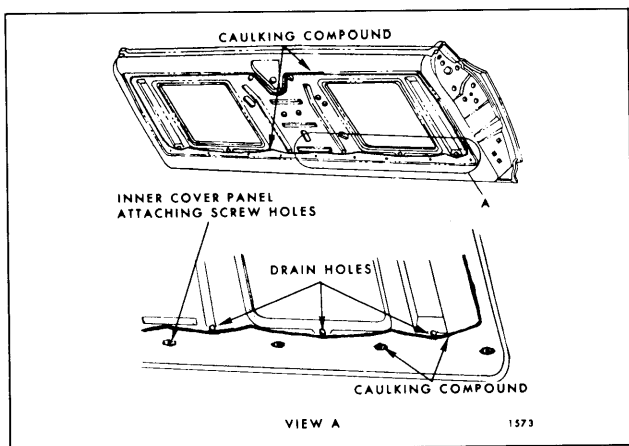

Fig. 9-2—Tail Gate Sealing
3. If needed, apply a bead of body caulking compound (approximately 3/16" diameter) to tail gate inner panel (See Fig. 9-2). The inner panel cover attaching screw holes should also be sealed with body caulking compound.